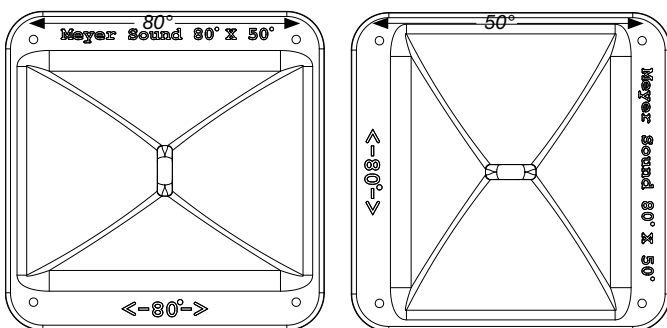

Figure 6.1. The VariO horn at 80° x 50° for wide horizontal coverage (left) and rotated to 50° x 80° for narrow horizontal coverage (right)
1. Remove the four (4) 10-32 x 5/8" grille cover screws (two from the top and two from the bottom) from the UPJ-1P.
3. Remove the four (4) 10-32 x 1" horn flange screws.
5. Rotate the horn 90° clockwise to change it from its 80° orientation to 50°. The wider flange around the horn's frame will now be along the sides of the frame instead of the top and bottom (Figure 6.1).
7. Replace the four (4) 10-32 x 1" horn flange screws and the four (4) 10-32 x 5/8" grille cover screws.